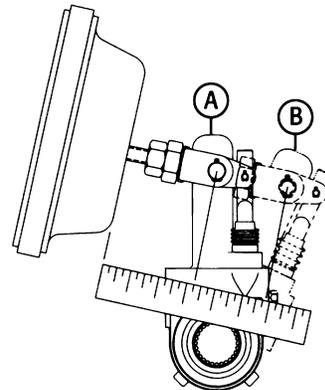

Figure 4 – Measuring Maximum Stroke
3. Using a ruler, measure the distance from the face of the air chamber to the center of the large pin in the clevis (A) (see fig. 4). Make an 85 psi brake application and allow the chamber push rod to travel its maximum stroke. Measure to the center of the large pin (B). The difference between (A) and (B) is the push rod stroke. Check the following chart for proper maximum stroke after adjustment of the brakes.
1. The Gunite slack adjuster should not require manual readjustment. If the maximum chamber stroke is within the range for the size chamber used (see fig. 4), the slack adjuster should not be manually readjusted.